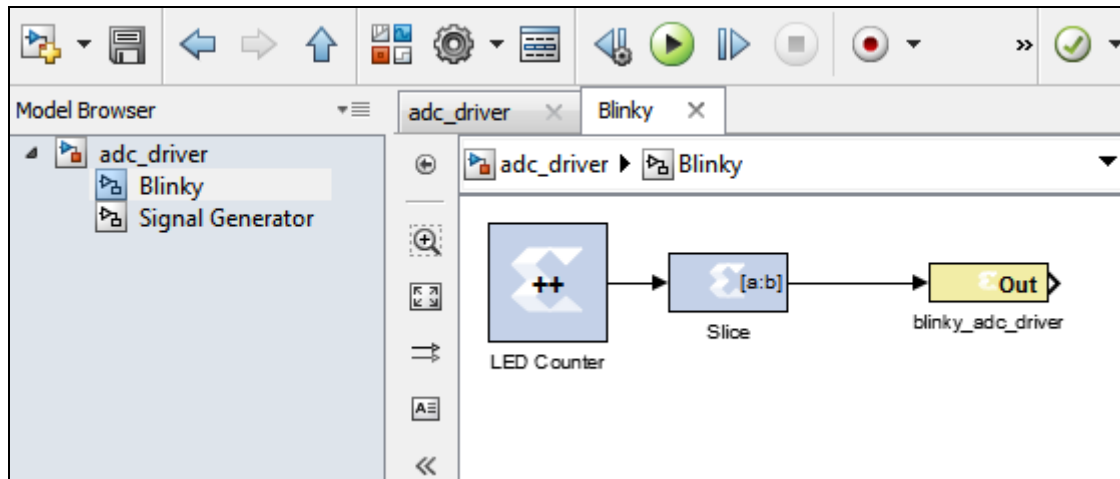

Figure 2-4: Blinky Subsystem
2. The white box labeled “Blinky” is simply a subsystem of the **Counter Slice** and LED **Gateway Out** blocks. The Blocks used for this subsystem are shown in Figure 2-4. Configure the Blinky subsystem identically to the other LED out systems in the previous labs.